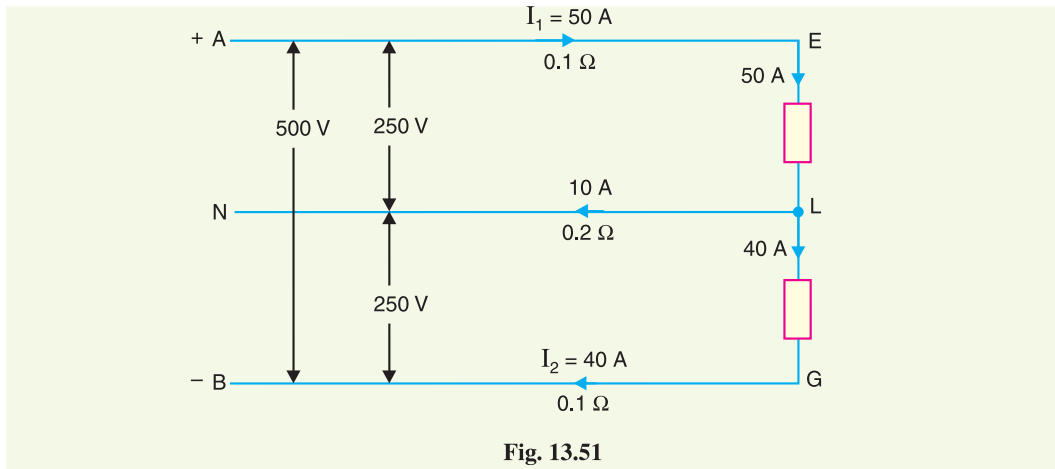

Fig. 13.51
**Solution.** Fig. 13.51 shows the current loading. Obviously, current in the neutral wire is  $50 - 40 = 10$  A. As the X-sectional area of neutral is half that of outer, therefore, its resistance  $= 2 \times 0.1 = 0.2 \Omega$ .